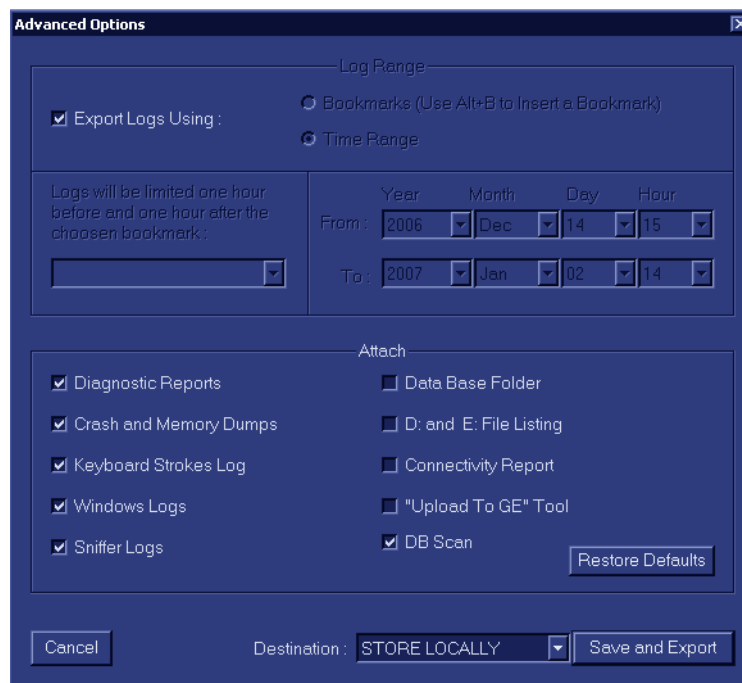

Figure 7-149 Advanced Export Options Dialog
The Advanced Export Options screen opens as shown in Figure 7-149.
- 1.) Activate the **Export Logs Using** checkbox, as shown in Figure 7-149, above.
Note: In the Advanced Export Options dialog, from the lower area (labelled **Attach** - see Figure 7-149 on page 7-175) users may flag the different items they may wish to attach to the log files (or alternatively disable the checkboxes for those not required).
Note: Clicking the *Restore Defaults* button returns to the default setting whereby all checkboxes in the *left* column are flagged and all on the *right* are disabled, as shown Figure 7-149.